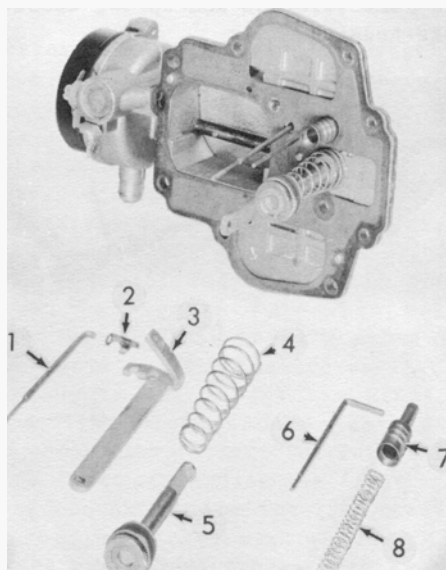

Fig. 9
Remove the step-up jet piston, (7, Fig. 9) rod (6) and spring from the carburetor bowl cover.
Push the accelerator pump piston toward the cover and disconnect from the actuating link, remove the pump piston (5, Fig. 9) and actuating link (3). Remove the pump spring (4) from the pump piston rod.